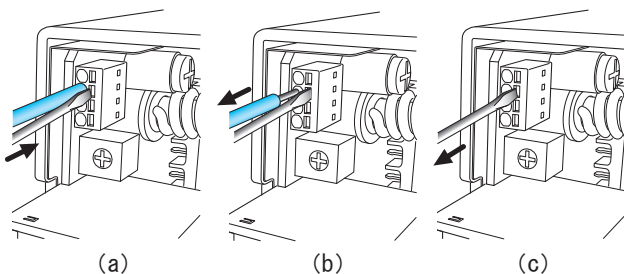

Fig.6.10 Releasing method of Ferrule terminal, Solid wire and Stranded wire
Step1: Insert a flat-blade screwdriver into the release hole. (Refer to the fig.6.10(a).)
Step2: Remove the wire with the flat-blade screwdriver inserted in the release hole. (Refer to the fig.6.10(b).)
Step3: Remove the flat-blade screwdriver from the release hole. (Refer to the fig.6.10(c).)